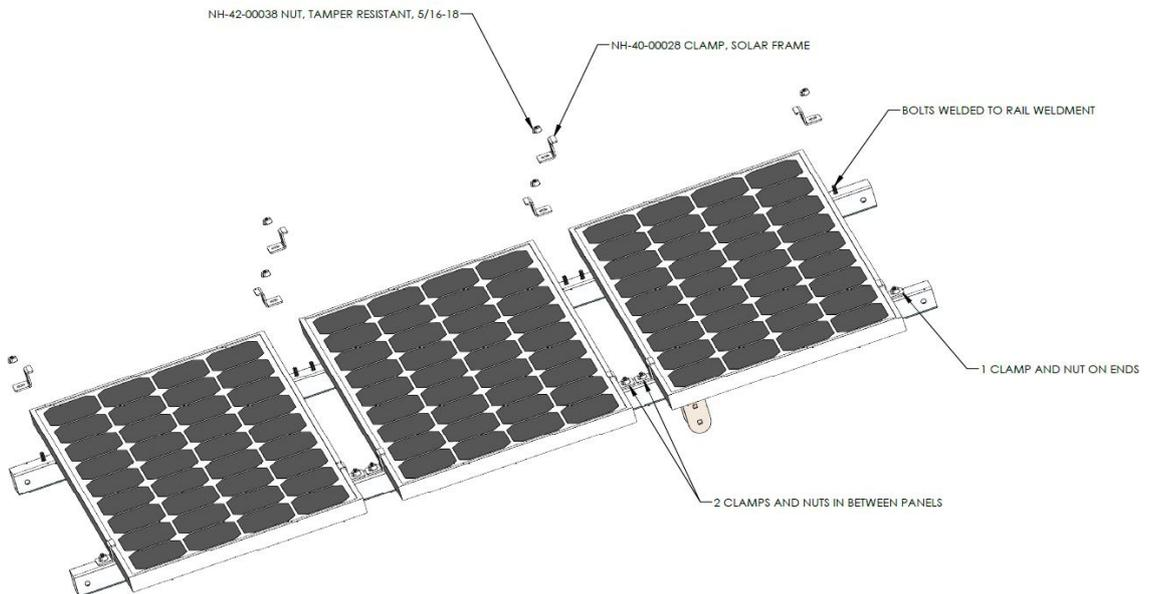
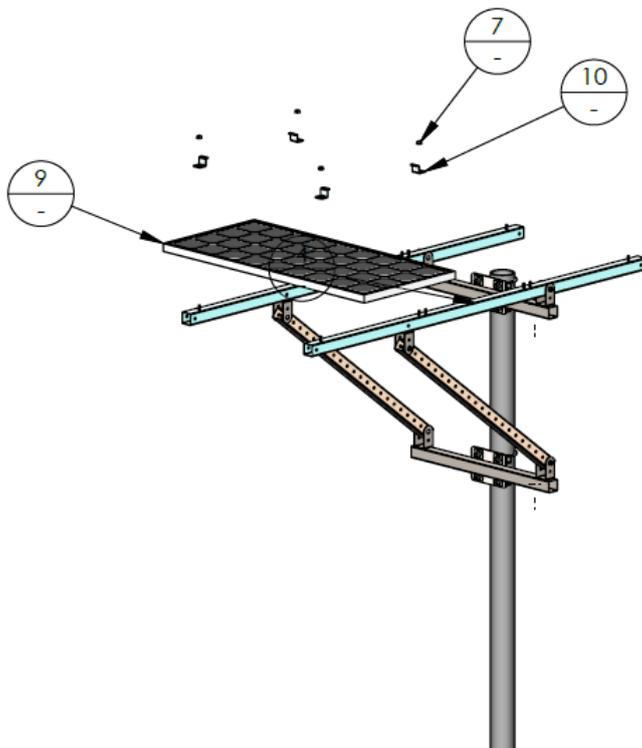

Figure 4.9: Top clamp details.
Figure 4.22: Assemble modules to module rails (first module shown).
Module to rail attachment: Attach the solar modules to the module rail with the theft deterrent fasteners supplied. The top clamp fasteners are theft deterring. See Figure 4.9.
Module to rail attachment: See Figure 4.16 for side view of a Ground Mount. Begin with the solar module (#1) at the lowest position and attach with clamps. Tighten clamps to hold module level and firmly in place. The next module (#2) will attach between modules #1 and #3. Tighten mid clamps. Module #3 attaches at the top. Tighten all clamps. See Figure 4.9.
Module to rail attachment: Begin with the solar module (#1) at the lowest position and attach at bottom with clamps. Tighten clamps (10) with theft-deterrent nuts (7) to hold module level and firmly in place. The next module (#2) will attach with clamps between modules #1 and #3. Tighten clamp. Module #3 attaches at the top. Tighten all clamps. See Figure 4.22 for first module assembly and Figure 4.9 for detail on the clamps.